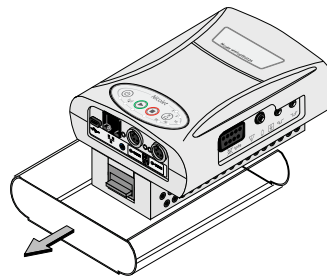

Figure 2
3. Carefully slide the plastic cover off the Nicolet EEGwireless32/64 amplifier (Figure 2).